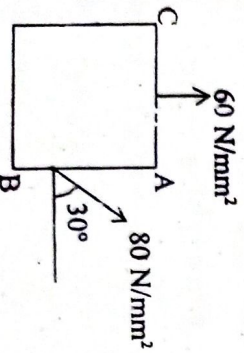

Fig. 2
2. (a) The intensity of resultant stress on a plane AB (Fig. 2) at a point in a metal under stress is 80 N/mm^2 and is inclined at 30° to the plane AB. The normal component of stress on another plane AC is 60 N/mm^2 . Calculate the following :
A beam ABC shown in Fig 2 hinged to the wall at A.